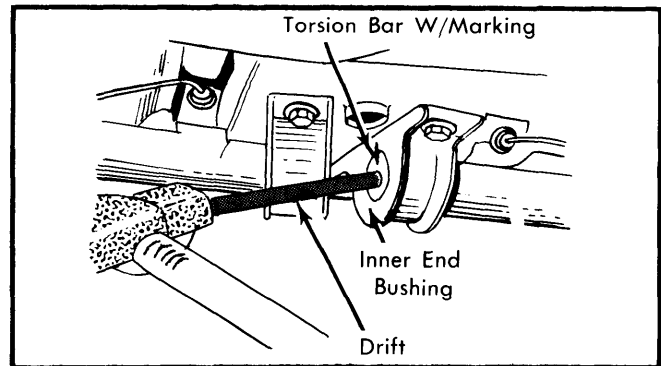

Fig. 2 View Showing Removal Procedure For Torsion Bar
5) Holding trailing arm so torsion bar does not twist, disengage serrations by tapping inner end surface of torsion bar See Fig. 2.